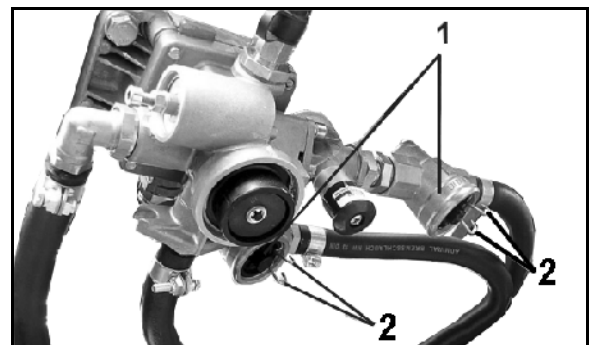

Fig. 83
Clean the two line filters (Fig. 83/1) every 3 months (more frequently in harsh operating conditions). To do so
1. Press the two lugs (Fig. 83/2) together and take out the closure piece complete with O-ring, pressure spring and filter insert.